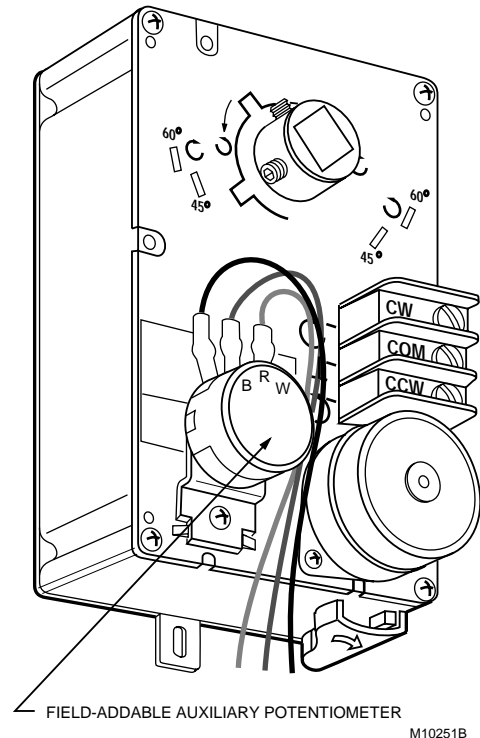

Fig. 11. ML6131 with field-addable potentiometer.
NOTE: See Fig. 11 for the 201052B Auxiliary Switch wiring.
The 200976 Auxiliary Potentiometer mounts on the face of certain ML6131A actuators as shown in Fig. 11. The potentiometer shaft has a slipping collar, which means that if one of the two limits of the potentiometer is exceeded, the collar will continue to rotate, causing no damage to the potentiometer itself. To mount the potentiometer on the actuator:
2. Check the resistance values of the potentiometer with an ohmmeter at intervals in the stroke while referring to the table in Fig. 11 and resistance information provided in the Specifications section.